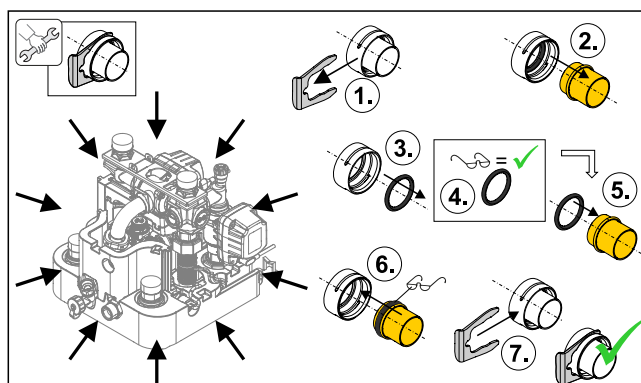

Fig. 3-19 Hydraulic system plug connectors
- Always place O-rings on the part to be inserted after disassembly or before assembly (see Fig. 3-19).